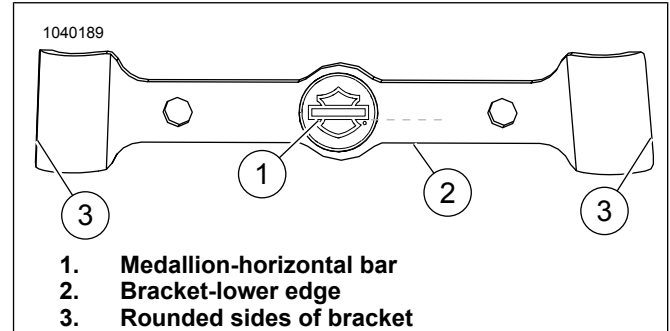
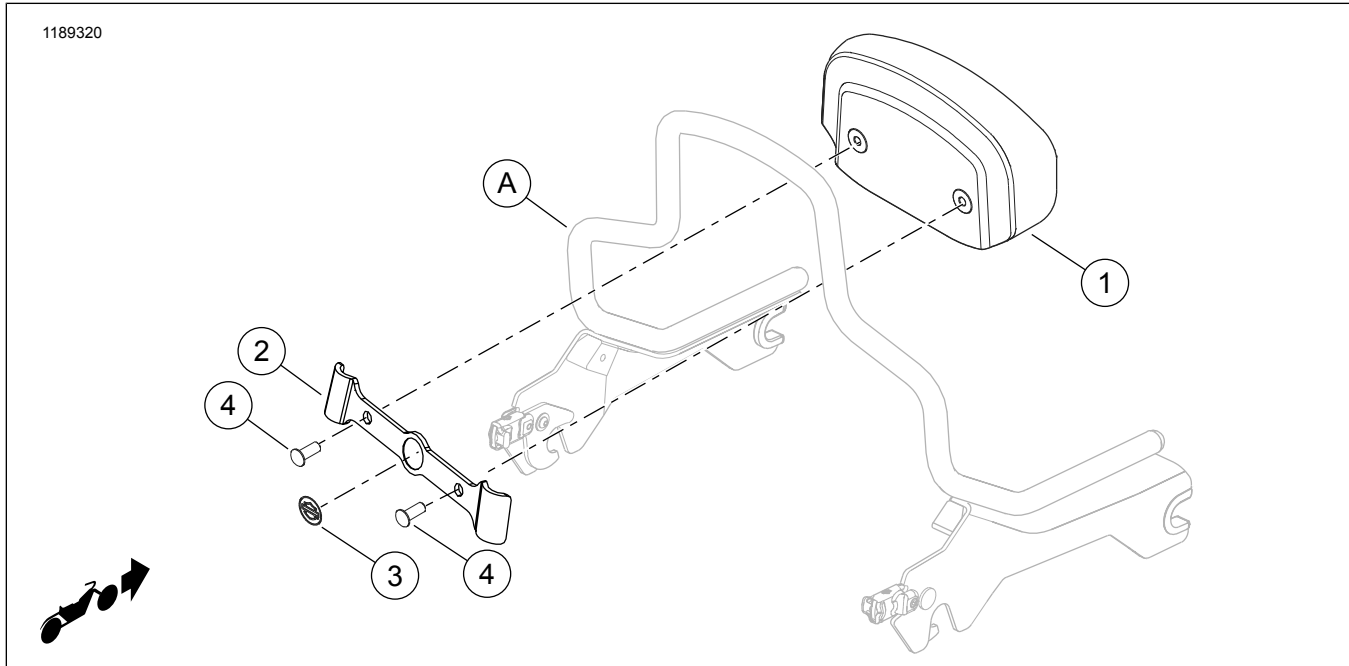

Figure 2. Medallion Alignment
Figure 3. Service Parts: Softail Compact Backrest Pad Kits
See Figure 3 and Table 1.
See Figure 2. The sides of the bracket (3) are not symmetrical. The width at the top is narrower than the width at the bottom.
See Figure 2. Align the horizontal bar (1) on the medallion with the lower edge (2) of the bracket. These two must be parallel.
- See Figure 3. If necessary, cut the plastic rain seal away from the two pre-cut screw holes in the backrest pad (1) to prevent the plastic from catching in the threads.
- Remove adhesive backing from left and right sides of bracket (3).
- See Figure 2. The sides of the bracket (3) are not symmetrical. The width at the top is narrower than the width at the bottom.
- Use a mixture of 50:50 isopropyl alcohol and water solution to thoroughly clean the surface of upright (A) before installing the bracket (2). Allow to dry completely. Install at room temperature. 10–32 °C (50–90 °F)
- Position and press bracket (2) firmly onto sissybar.
- See Figure 3. Insert a screw (4) from the kit through the bracket (2), and carefully thread it 4-5 turns into the mating hole in the backrest pad. Repeat with the other screw. **DO NOT tighten a screw until both screws have been started.**